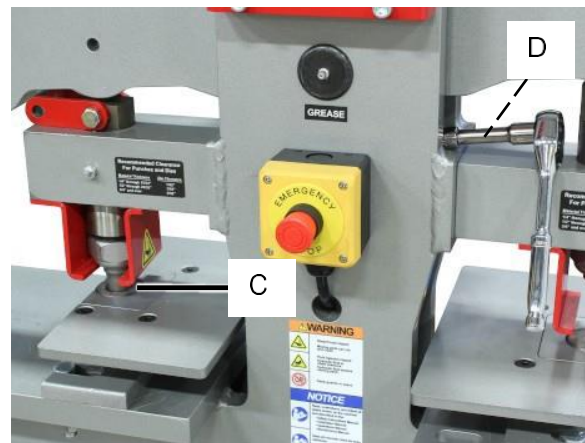

Figure 9
8. Place the punch table and the punch block on the frame table. Allow the punch to engage the die and assist in alignment. It is recommended to use the 1" punch and die set. (Fig. 9, C)
9. Install the four hex head screws using the 9/16" socket wrench with extension to install and tighten the cap screws. (Fig. 9, D)